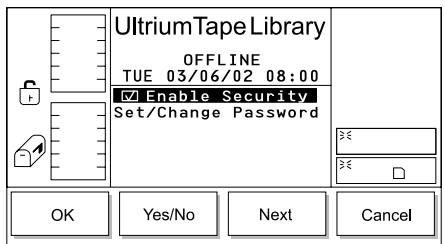

Figure 251. Security Enabled Dialog
6. Verify that the password is correct on the display, then press the button below the **OK** softkey. The Security Enabled Dialog displays with a checkmark beside the Enable Security field to indicate that security is currently enabled (see Figure 251).